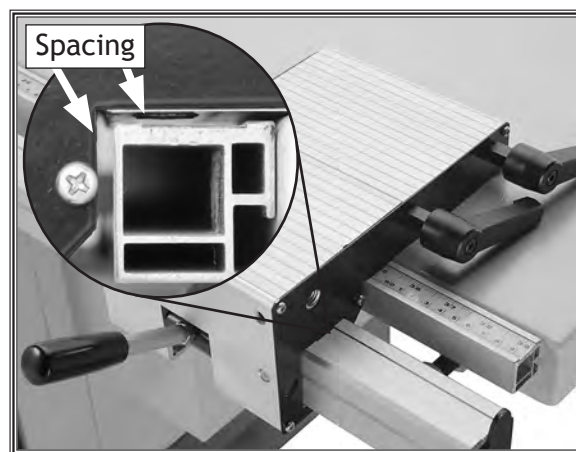

Figure 19. Fence base installed; spacing between fence base and scale bar.
12. Slide the rip fence base on the rail, and check the spacing between the rip fence base and scale bar (see **Figure 19**). There should be a minimum of $\frac{1}{8}$ " of space between the scale bar and the fence base. Adjust the mounting position of the rip fence rail to create this space evenly along the length of the scale bar, then tighten the rail mounting nuts.